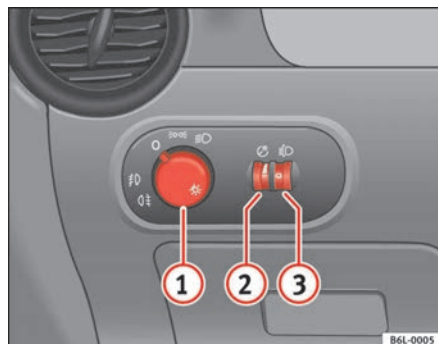

Fig. 56 Detailed view of dash panel lights, fog light and rear fog light control
- Turn the light switch  **fig. 56** to position .